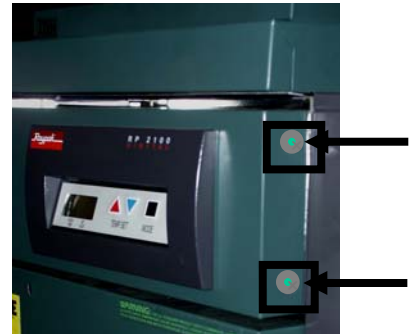

Fig. 1
4. Remove the four screws on the side of the heater holding the control panel. See **Fig. 1** and **Fig. 2**.